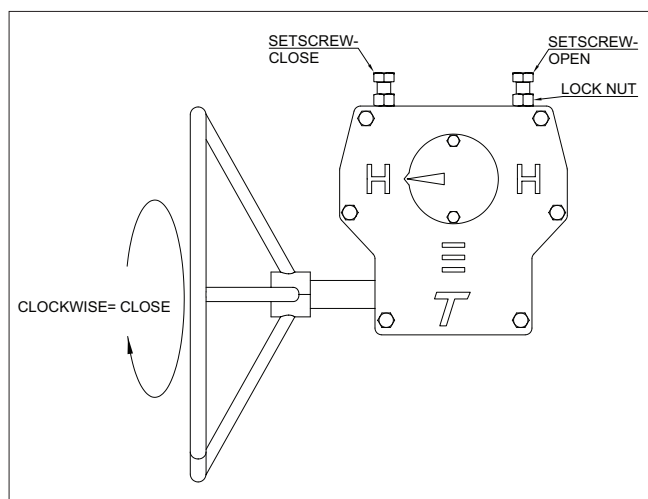

Fig. 3 Gearbox setscrew adjustment
3. When the fully closed position cannot be achieved, loosen the setscrew-close (see Figure 3) by turning them counterclockwise. Continue turning the handwheel until the valve is totally closed. Please note, that the butterfly valves need to be closed using a given torque, see the tables in a relevant valve manual.
6. When it cannot be achieved to open the valve totally (90°), loosen the setscrew-open (see Figure 3) by turning it counterclockwise. Continue turning the handwheel until the valve is totally opened.